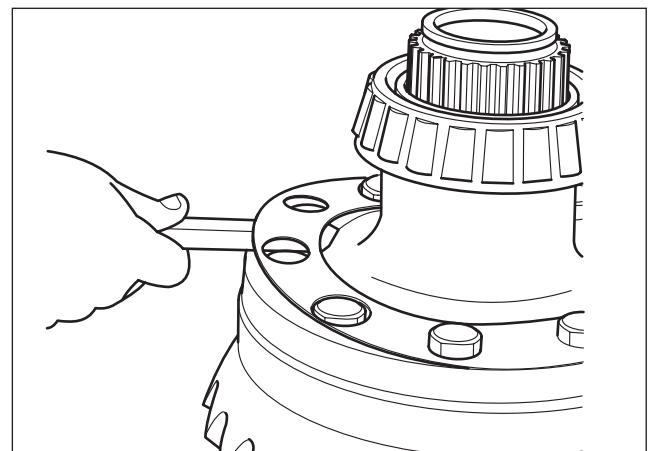

Fig. 2.36
7. Invert the ring gear and prise off the metal locking plate around the ring gear screws. (Fig.2.36)